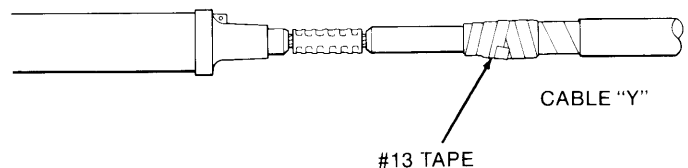

Figure 4
4. Lubricate bore of splice with silicone grease and install onto cable "X" leaving conductor exposed for connector. (Figure 4).